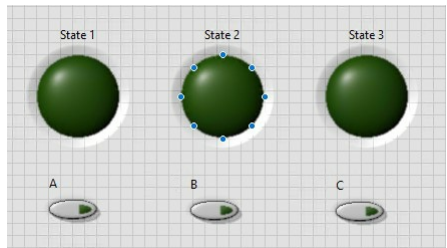

Figure 2.2 State Machine UI.
2. Create a new vi for the UI that looks like figure 2.2